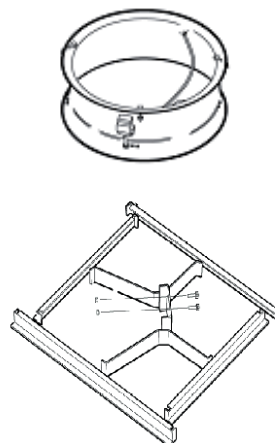

Figure 5. Motor suspension
- Figure 5. Remove the bolts that secure the motor and the motor are loose.